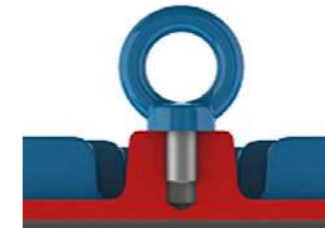
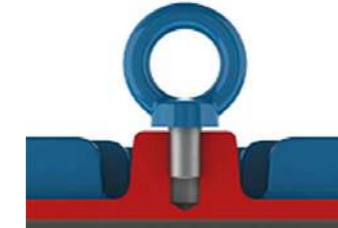

Figure 4.1 – Correct tightening of the eyebolt
Figure 4.2 – Incorrect tightening of the eyebolt.
Before lifting the motor ensure that all eyebolts are tightened properly and the eyebolt shoulders are in contact with the base to be lifted, as shown in Figure 4.1. Figure 4.2 shows an incorrect tightening of the eyebolt.
1. Ensure that the eyebolts are tightened properly, as shown in Figure 4.1;
1. Ensure that all eyebolts are tightened properly, as shown in Figure 4.1;